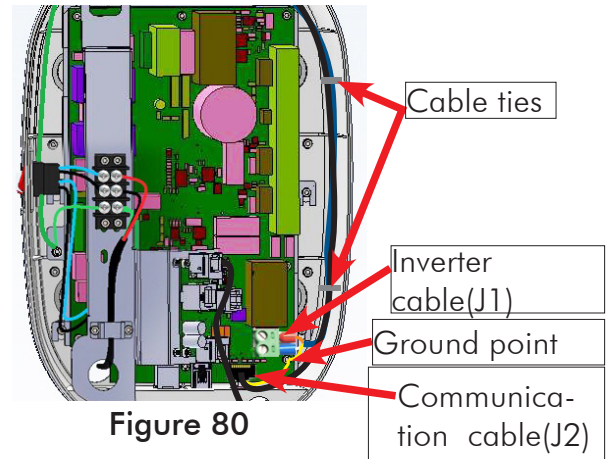

Figure 80
- Cut the 2 cable ties inside the base unit located on the right side of the power board as shown in Figure 80 .
- Disconnect the Inverter power cable from J1 connector using screw driver and communication cable from J2 connector on the power board as shown in Figure 80 .
- Remove the GND wires of both the cables by removing M3x6 HSHC screws using 2.5 mm Allen key as shown in Figure 80 .
- Connect the Inverter power cable to J1 connector(Non-polarised) using screw driver and connect communication cable connector to J2 connector on the power board by pressing the lock as shown in Figure 80 .
- Connect the GND wires of both the cables by fixing with M3x6 HSHC screws using 2.5mm allen key as shown in Figure 80 .